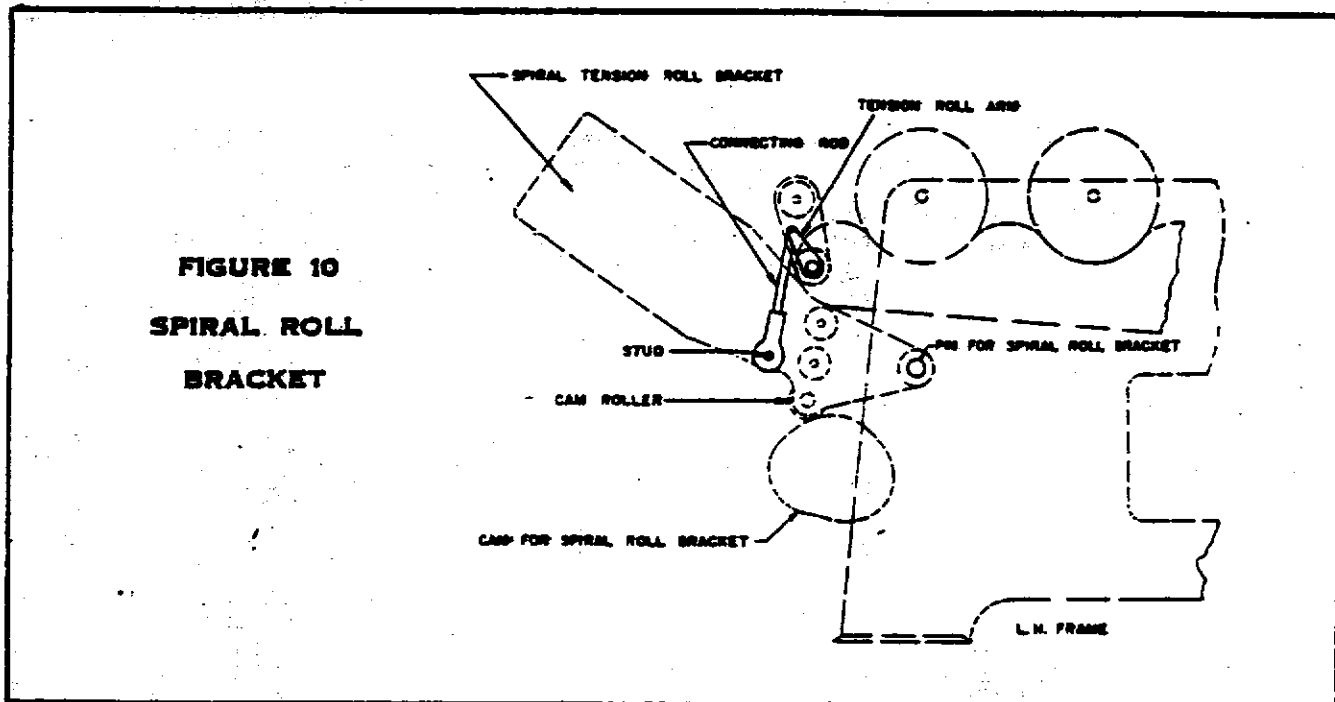

FIGURE 10
1. Spiral Roll Brackets - (See Figure 10, below) Attach spiral tension roll brackets to delivery end of frame with the pins for spiral roll bracket. Cam rollers will then rest on the cams for spiral roll brackets. Insert studs on right and left-hand brackets in ends of connecting rods for tension roll arms.